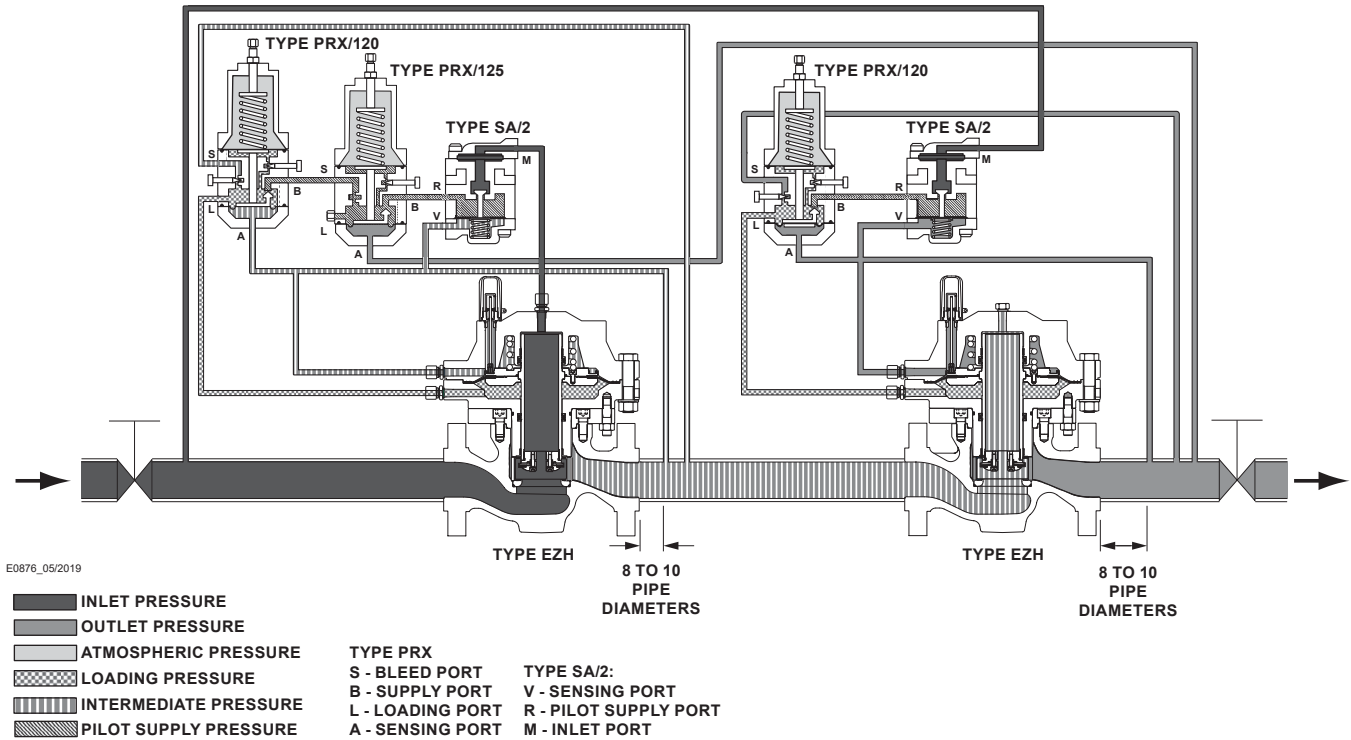

Figure 6. Working Monitoring System Operational Schematics
Working Monitoring System (Figure 6)
- Follow the procedure in the All Installations section and then continue with step 2 of this section. The sense line of the upstream monitor pilot (from Port A on the Type PRX/125) and the bleed (Port S) and sense lines (Port A) of the downstream pilot will be connected to the downstream piping (see Figure 6).
Adjusting the monitor regulator (Figure 6) is the same as adjusting the main regulator. Monitor setpoints are set slightly higher than the main regulator. The monitor pressure setting should be adjusted so it is at minimum two times the pilot accuracy band pressure above the working regulator pressure setting.
For a working monitor installation (Figure 6), turn out the adjusting screw of the downstream pilot, removing spring tension. Adjust the upstream working pilot to the desired intermediate pressure setting. Turn out the adjusting screw of the upstream monitor pilot (Type PRX/125), removing tension. Turn in the adjusting screw of the downstream pilot. Adjust the upstream monitor pilot to the desired setpoint. Establish final desired downstream pressure by adjusting the downstream pilot.